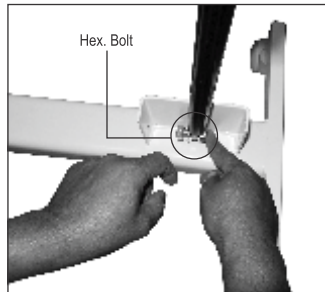

Fig 1
2. Fix the gas spring on the base frame with the hex bolt (Fig 1).